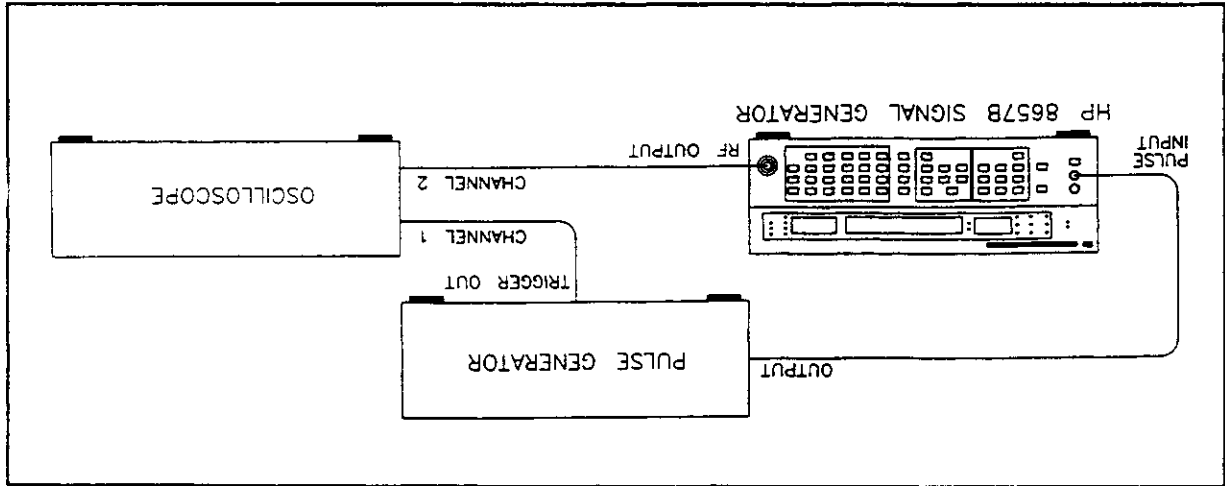

Figure 4-12. Modulation Test Setup
- Connect the equipment as shown in Figure 4-12.